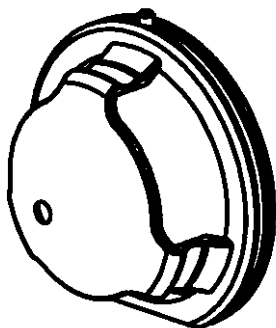

Figure 3-1. Ion sweep cone
Open the lid to the API source and remove the septum from the entrance to the ion transfer tube. Reinstall the ion sweep cone on the spray cone. See Figure 3-1. Recheck the vacuum levels. Finally, close and secure the lid of the API source chamber.
4. Remove the ion sweep cone (Figure 3-1) from the spray cone and place it on a large Kimwipe® (or other lint-free tissue).